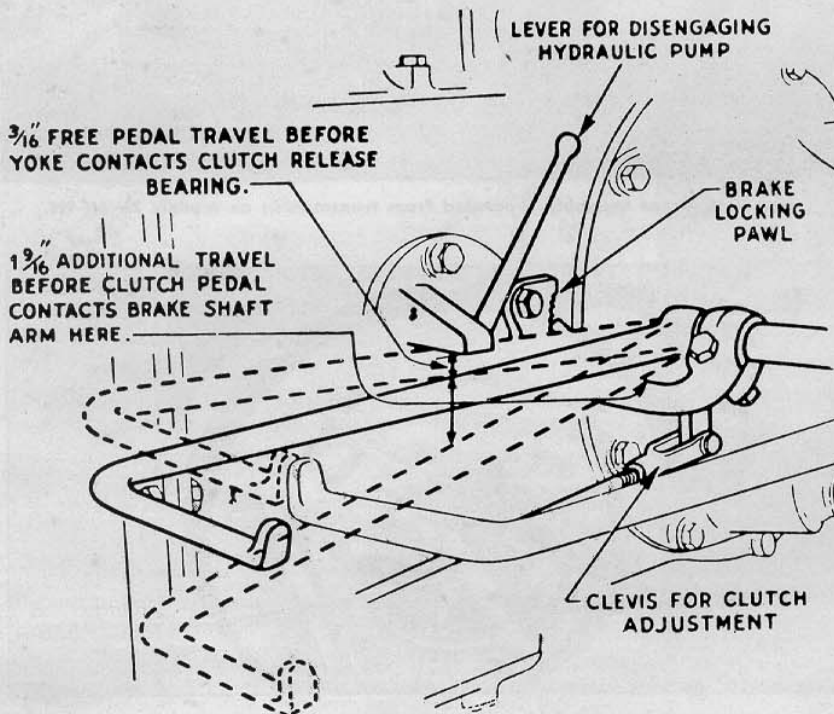
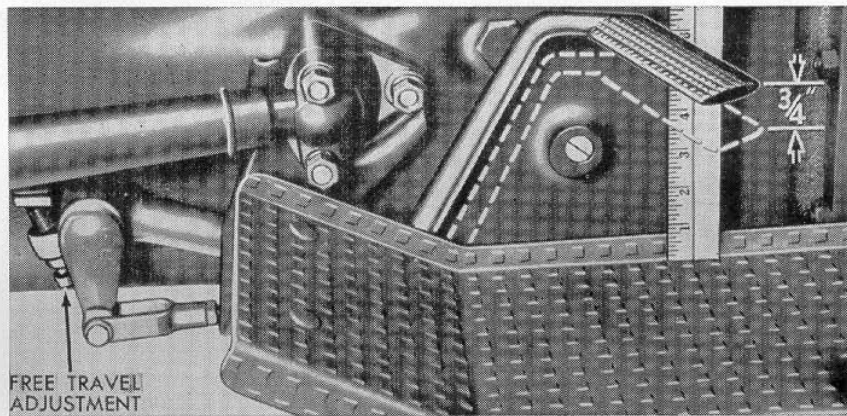

Fig. FO48—Clutch pedal adjustment on models 2N-9N.
Fig. FO49—Clutch pedal adjustment on model 8N.
63. Free travel of models 2N-9N clutch pedal should be 3/16 inch and for model 8N 3/4 in. To adjust pedal clearance on models 2N-9N, remove clutch rod clevis pin as shown in Fig. FO48 and screw clevis in or out as required and reconnect. Early model 8N tractors have an adjustment screw which is part of clutch pedal as shown in Fig. FO49. Later 8N tractors have a rod linkage system with a clevis adjustment.